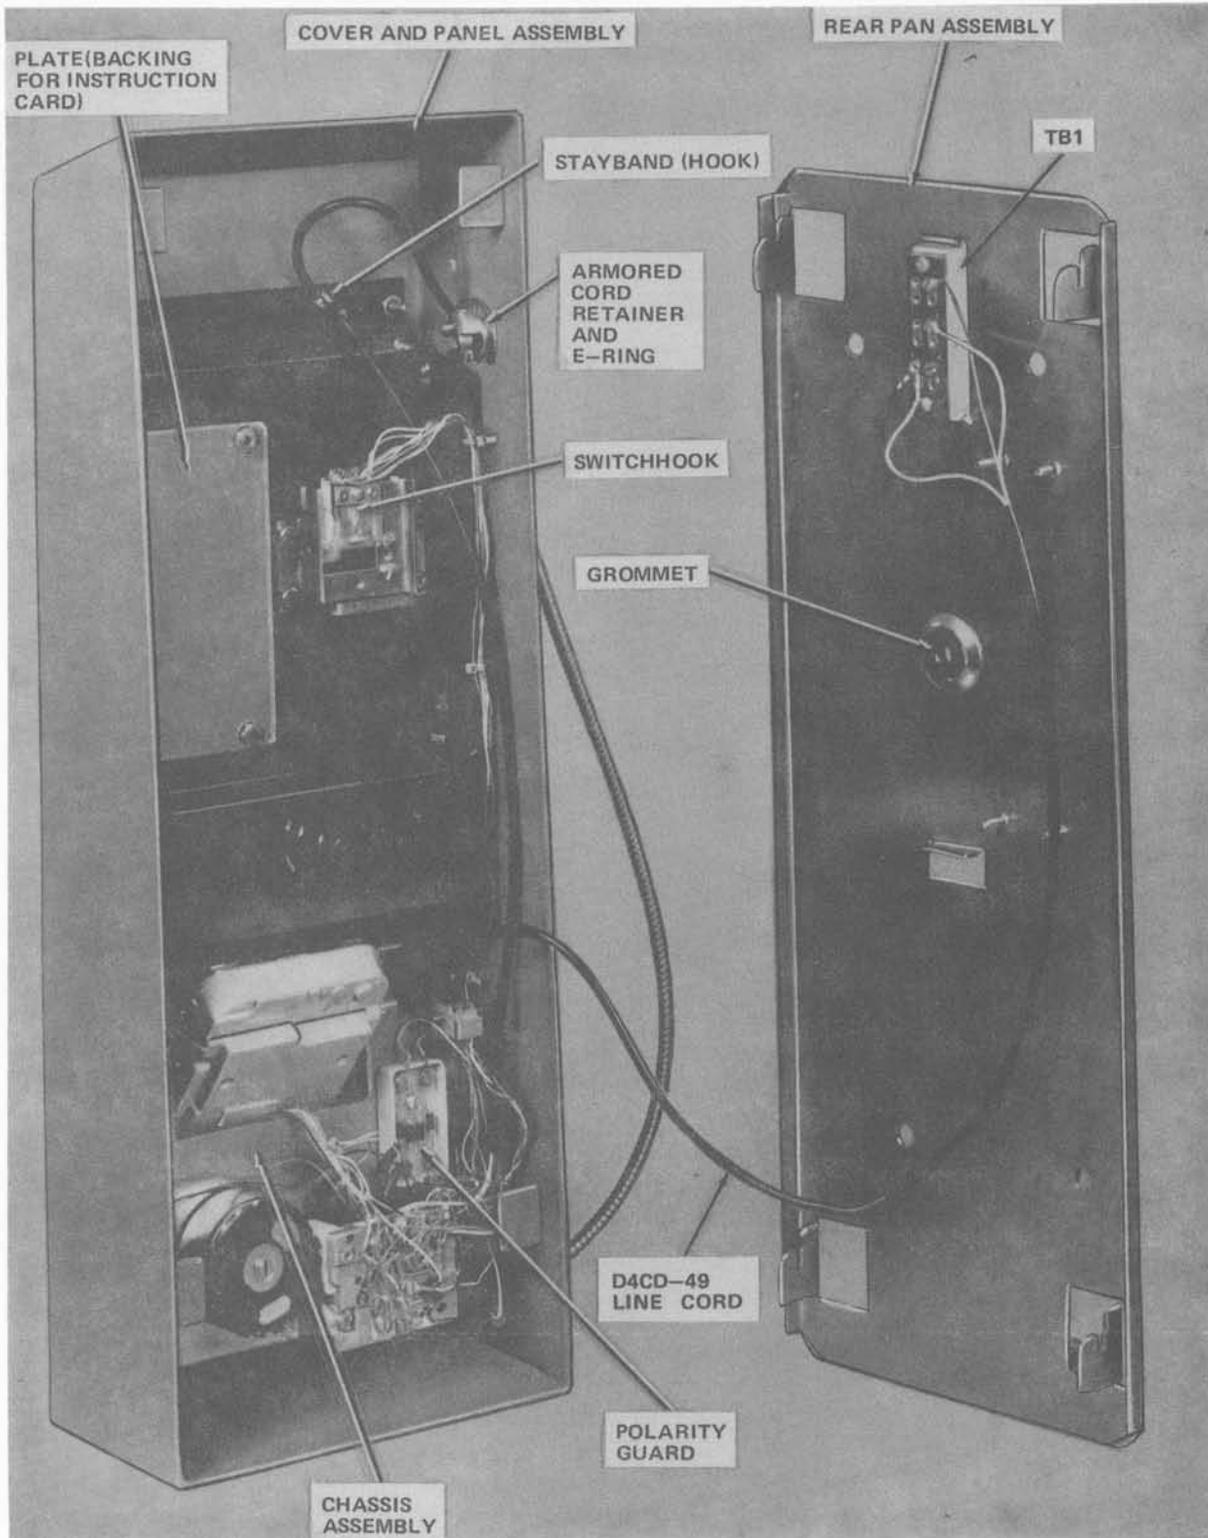

Fig. 4—10A Coinless Telephone Set With Rear Pan Assembly Removed
2.02 Each set consists of a rear pan assembly and a front cover assembly (Fig. 4). These two assemblies are connected electrically by a 2-foot long D4CD-49 line cord.
3.02 Run inside wire through grommet (Fig. 4) and terminate on TB1 per Fig. 17. Be sure that bonding and grounding practices are followed as described in Sections 460-100-400, 506-100-100, and 508-100-100.
- (1) Remove four No. 8-32 hex nuts and remove plate from instruction card opening (Fig. 4).
- (2) Insert instruction card (procured locally) into the opening and secure with the plate and four No. 8-32 hex units removed in Step (1).